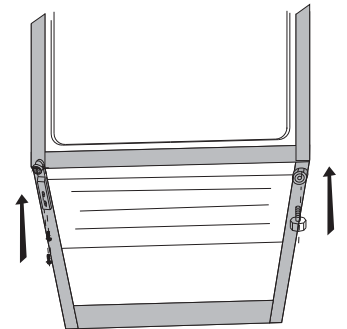

Figure 4
- 4 Install the lower hinge on the left side on the bottom of the refrigerator. Install the adjustable foot on the right side as shown in Figure 4.